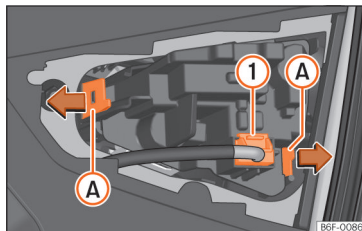

Fig. 110 Remove the bulb holder.
4. Remove the bulb connector »» Fig. 110 ①.